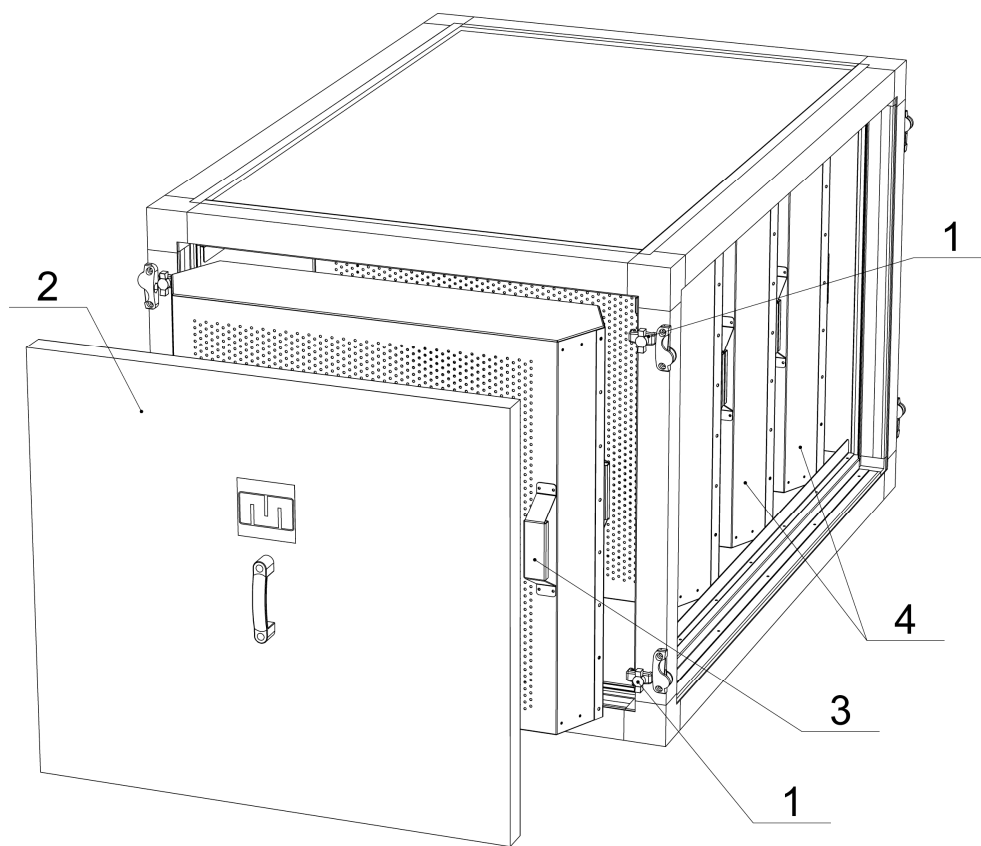
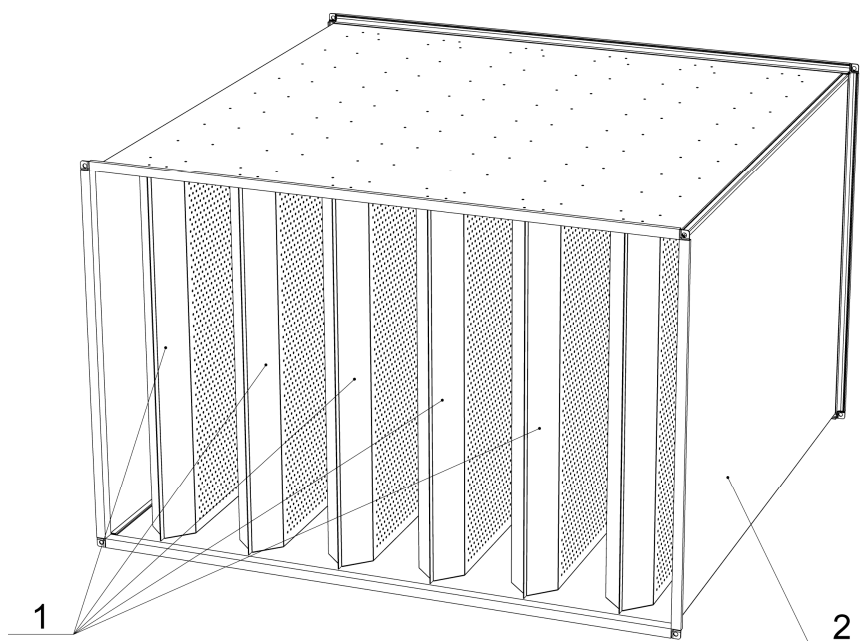

Figure 8.2.1 - Sound attenuator section.
Figure 8.2.2 - Duct sound attenuator.
4. Sound attenuators available as removable baffles inside casing (Figure 8.2.1) or as ductworks attenuators (Figure 8.2.2).